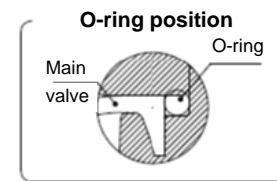

Fig.10
- Mount the O-ring into the groove in the body. Ensure that the O-ring is correctly positioned in the groove otherwise external leakage and/or operation failure may occur, see Fig.10.